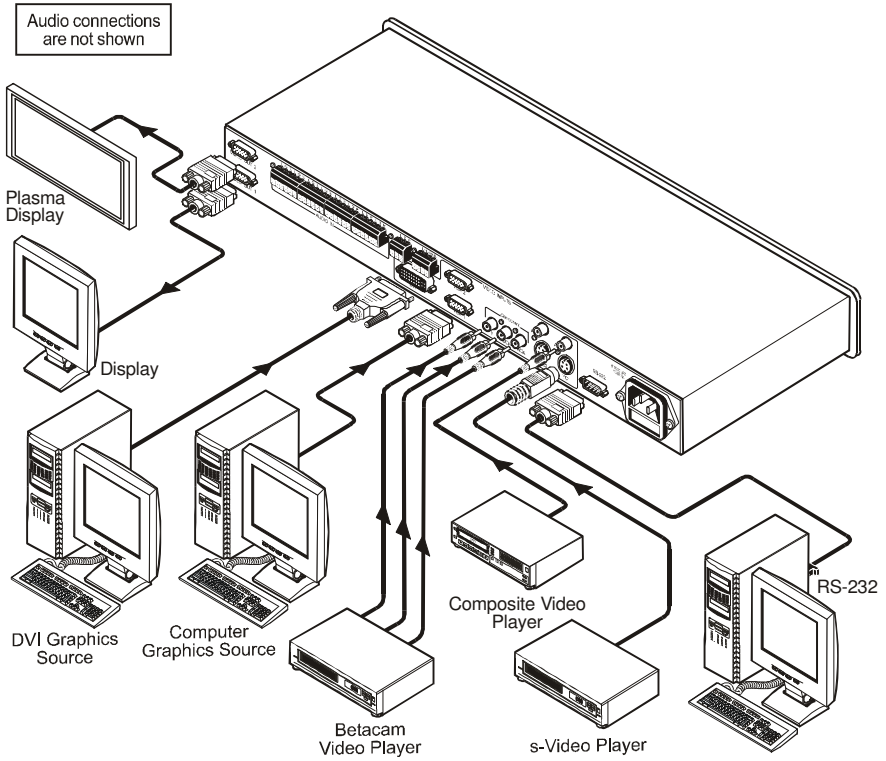

Figure 7: Connecting the VP-724xl Rear Panel
To connect the **VP-724xl** as illustrated in the example¹ in Figure 7, do the following²:
2. Connect the stereo audio sources⁸ (not illustrated in Figure 7):
4 Although in the example illustrated in Figure 7 only one source is connected, you may connect both sources simultaneously
6 Alternatively, you can connect an RGB signal (not shown in Figure 7), as follows: Red to the Y connector, Green to the P_b/C_b connector, and Blue to the P_r/C_r connector
4. Connect the LINE AUDIO OUT terminal block connector to one of the audio acceptors, for example, speakers (not illustrated in Figure 7)
6. The power cord¹ (the power connector is not illustrated in Figure 7).